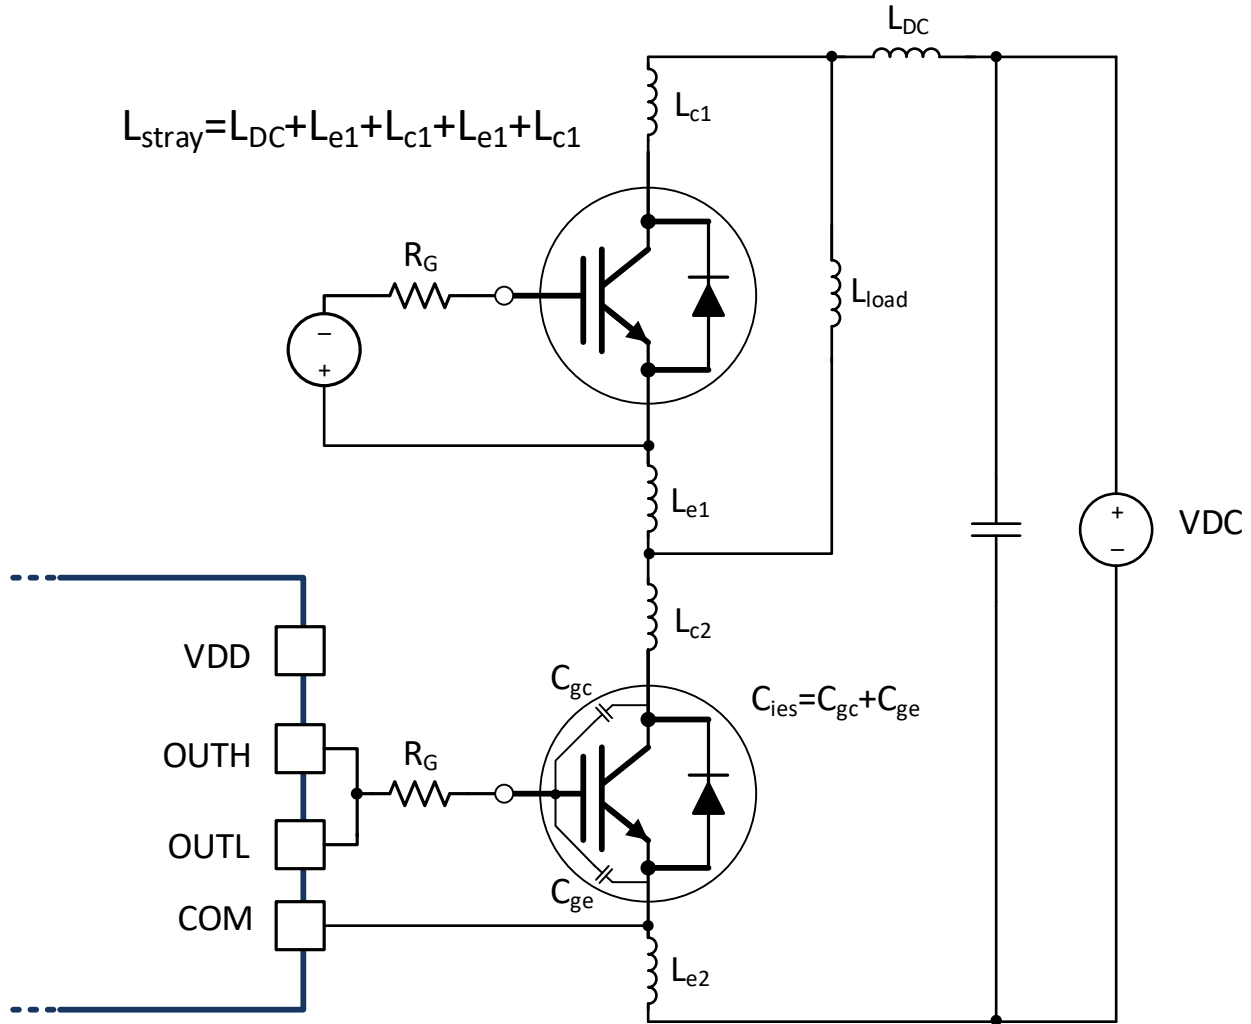

图 8-6. Stray Parasitic Inductance of IGBTs in a Half-Bridge Configuration
- L_{stray} is the stray inductance in the power switching loop, as shown in 图 8-6.